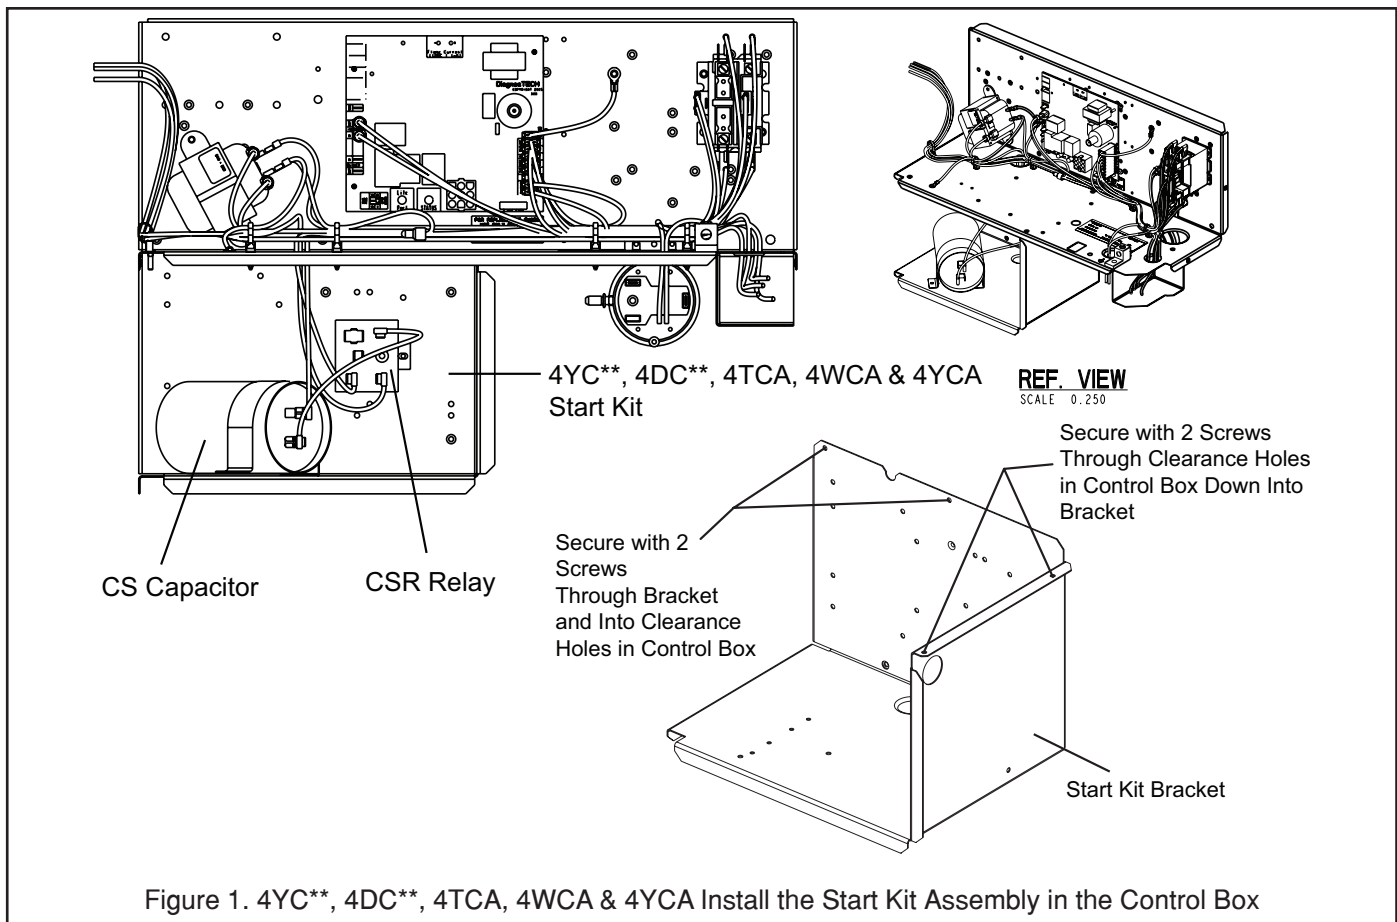
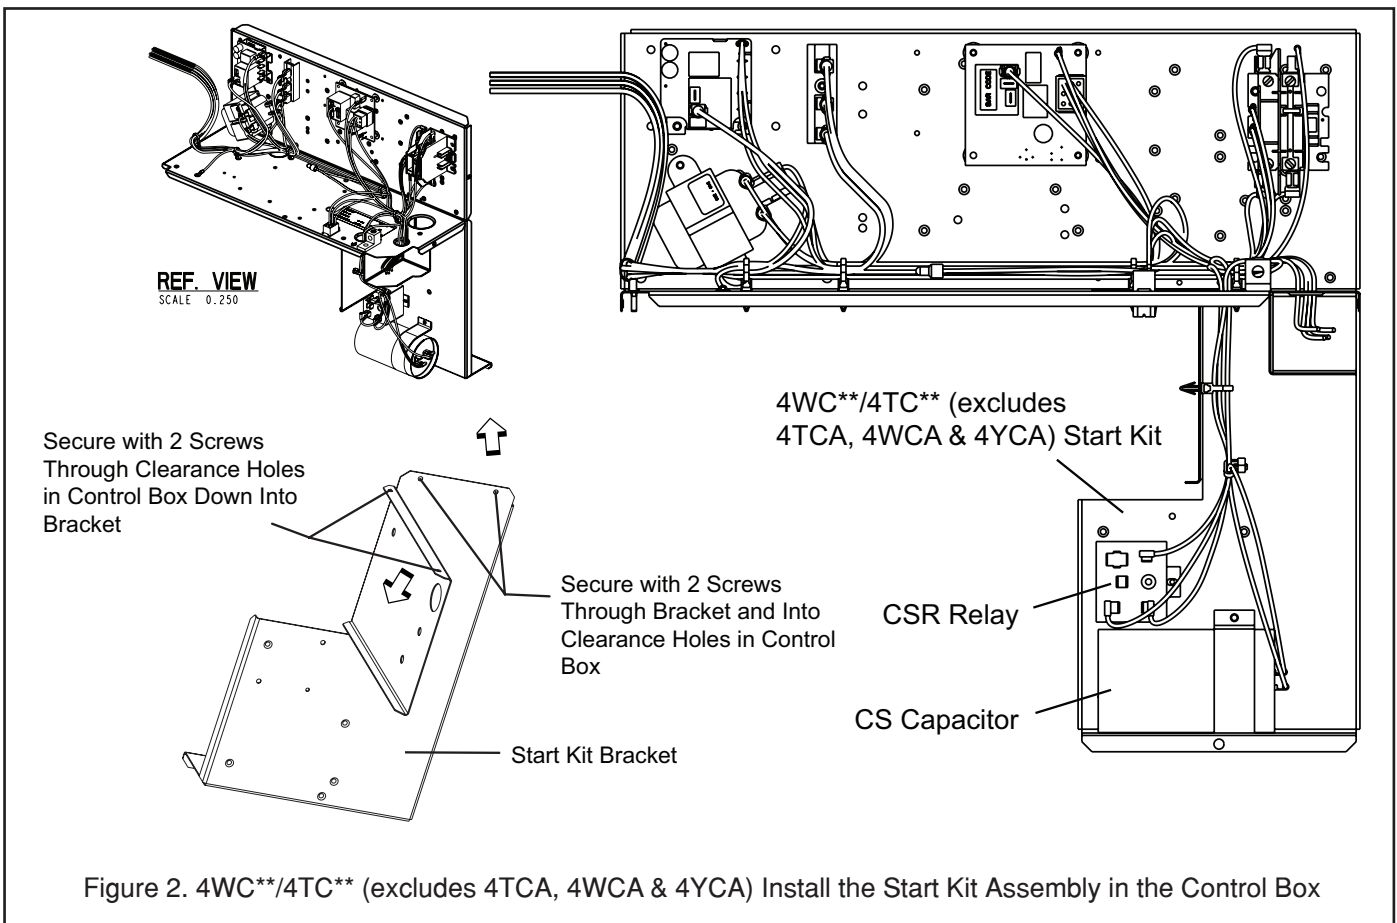

Figure 1. 4YC**, 4DC**, 4TCA, 4WCA & 4YCA Install the Start Kit Assembly in the Control Box
Figure 2. 4WC**/4TC** (excludes 4TCA, 4WCA & 4YCA) Install the Start Kit Assembly in the Control Box
2. Mount the start kit assembly components in the Control Box compartment as illustrated in Figure 1 or Figure 2. Use the mounting screws provided.